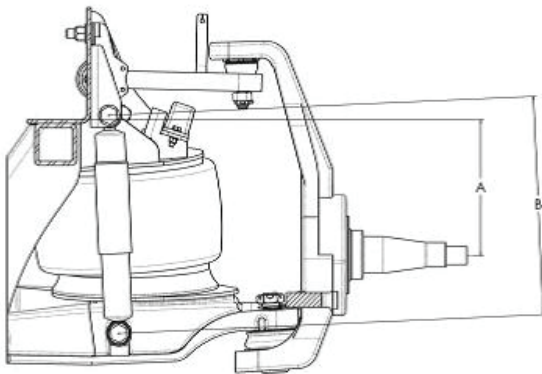

Figure 11 – Measurement at Ride Height
The ride height of the front suspension is the distance from the bottom of the chassis frame rail to the center of the wheel spindle. An alternate measurement may be taken as the height of the shock absorber (**Figure 11**).
- A: On vehicles with front suspension equipped with (2) height control valves, check and adjust the rear suspension first.
4. Measure either the wheel center to bottom of frame ("A") or shock absorber height ("B"). If the dimensions are not within $\pm 1/8"$ of measurements in **Figure 11**, adjust as follows.